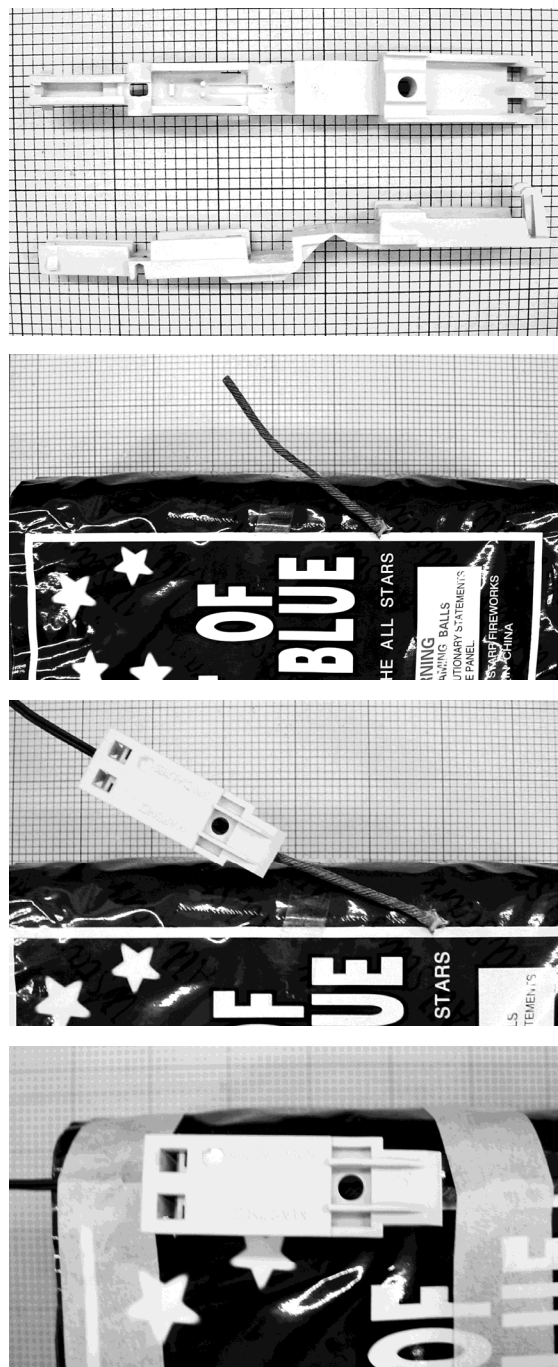

Figure 1. Photos of the Quick-Fire VF clip and its attachment to a small firework cake item.[4] (Each square in the background is 0.1 inch.)
With the wide spread use of large cake items in firework displays, many with visco fuse as the point of ignition, there is need for a reliable means of igniting those item using electric matches. Based on the testing reported here, the Quick-Fire VF clip (connector) should effectively fill that need. The clip and its attachment to a small cake item are illustrated in Figure 1. The upper most photograph shows two views of the clip as supplied (i.e., without an electric match installed in it). The first step in the process of attachment to the firework is to install a non-shrouded electric match into the left half of the clip.[4] This process requires only a few seconds, is well described in the literature supplied with the clips, but is not illustrated in Figure 1. The upper-middle photograph shows the visco fuse of the firework after the ignition end was uncovered and freed from its attachment to the firework. The lower-middle photograph is after the Quick-Fire VF clip has been secured to the visco fuse. Again, this process requires only a second or two, is well described in the literature supplied with the clips, but is not illustrated in Figure 1. The lower most photograph is with the Quick-Fire VF clip and visco fuse secured to the firework using tape.
- 4) The clips supplied for evaluation, and shown in the top photographs of Figures 1 and 2, did not have electric matches preinstalled. However, while Martinez Specialties will supply clips without an electric match already installed, it is intended that the clips will generally be supplied with an electric match preinstalled to save time for the user.